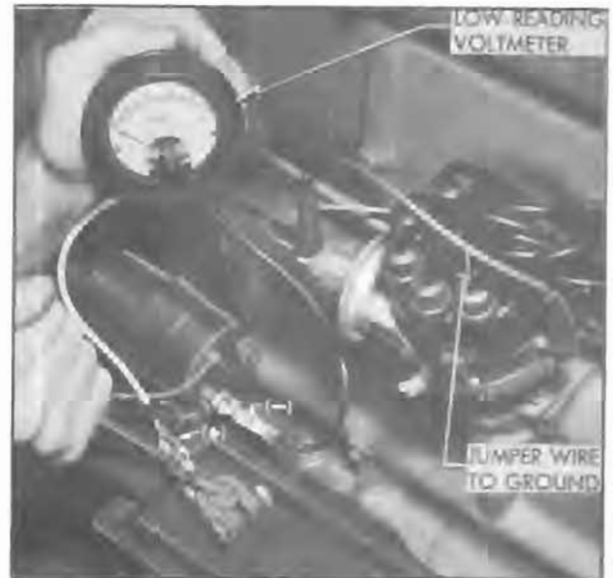

Figure 10-8—Testing Battery Cables and Connections with Voltmeter
2. Connect negative (-) lead of voltmeter to the battery terminal stud on cranking motor solenoid switch. Attach a prod to positive (+) lead of voltmeter and apply the prod to center of battery positive (+) post. See figure 10-8.